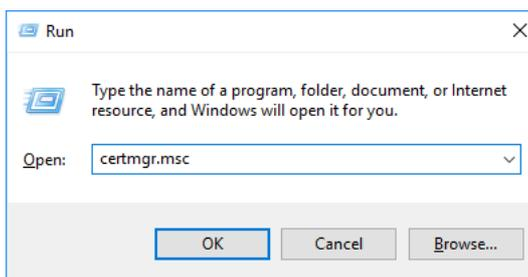

Figure 2-31. Starting the Windows Certificate Manager
2. Press <Win> + <R> and then type certmgr.msc in the Run dialog to start the Windows Certificate Manager, see Figure 2-31.